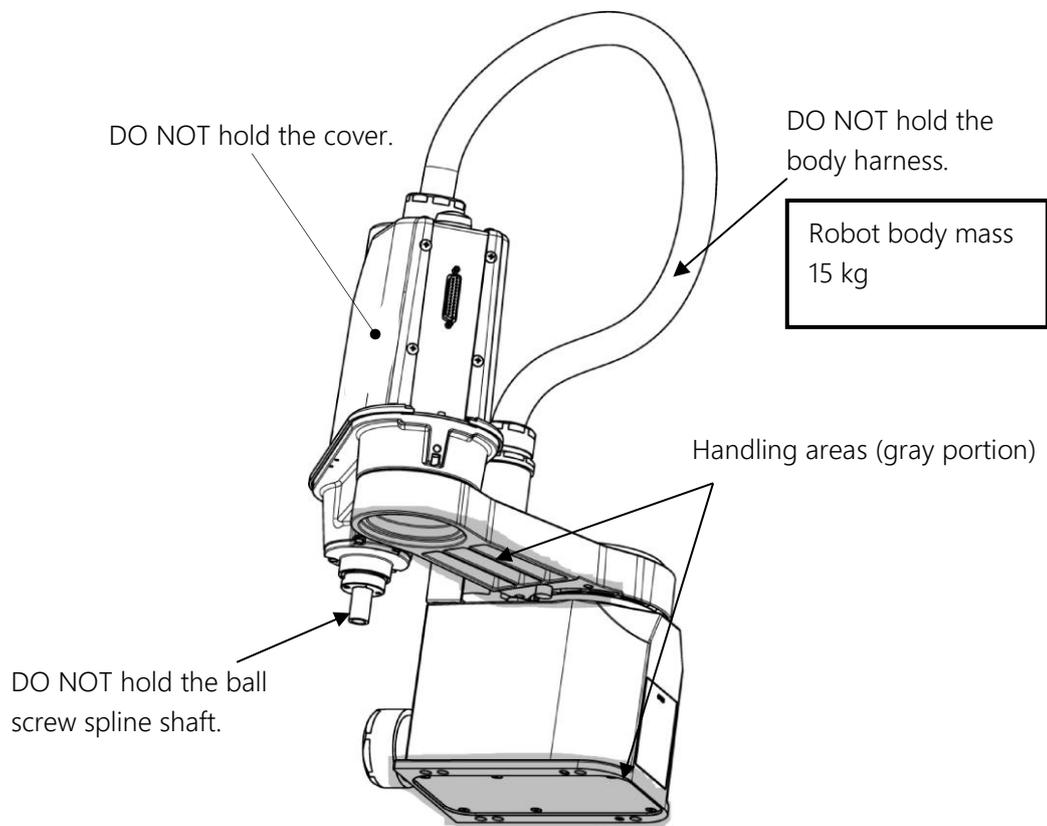

Fig. 2.3 Handling areas of the robot (KHE-400)
In principle, the robot should be transported in the state shown in Fig. 2.3 above.
- When lifting up the robot by workers, hold the gray portions by hands as shown in Fig. 2.3. If the arm 2 cover, body harness, or ball screw spline shaft is held by hands, an unusually large force is exerted, resulting in a malfunction.
- The work should be performed by two (2) or more workers.